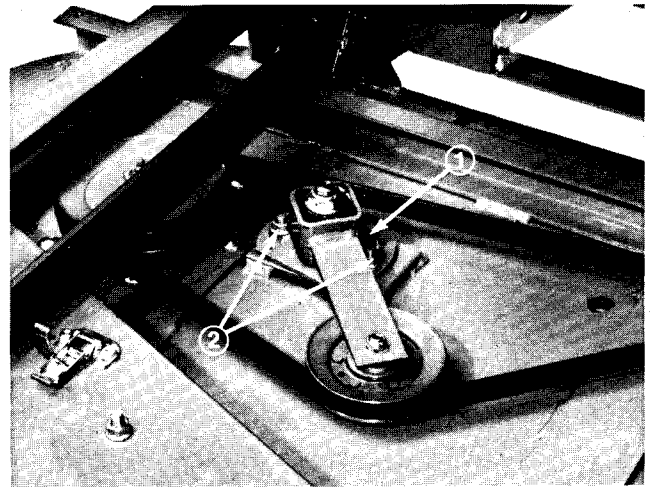

Figure 29
3. Loosen the two nuts securing the idler plate in place and remove the old belt from the pulleys (Fig. 29).